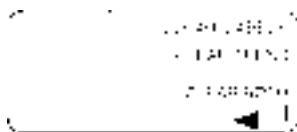

Figure 4
- Labels and all associated trend data are cleared from memory by accessing the “Viewable SpO₂ Trend” screen OR the “Labels” screen, and pressing the “Clear” button. Then select either “Clear Trend” or “Clear Both” (Figure 4).